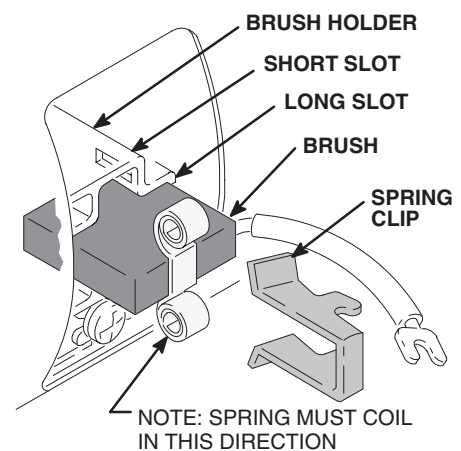

Fig. 13 01227
6. Install a new brush so the lead is in the long slot of the holder. See Fig. 13.
8. Place the spring on the brush as shown in Fig. 13.
9. Install the spring clip and push it down to hook the short slots in the housing. See Fig. 13.